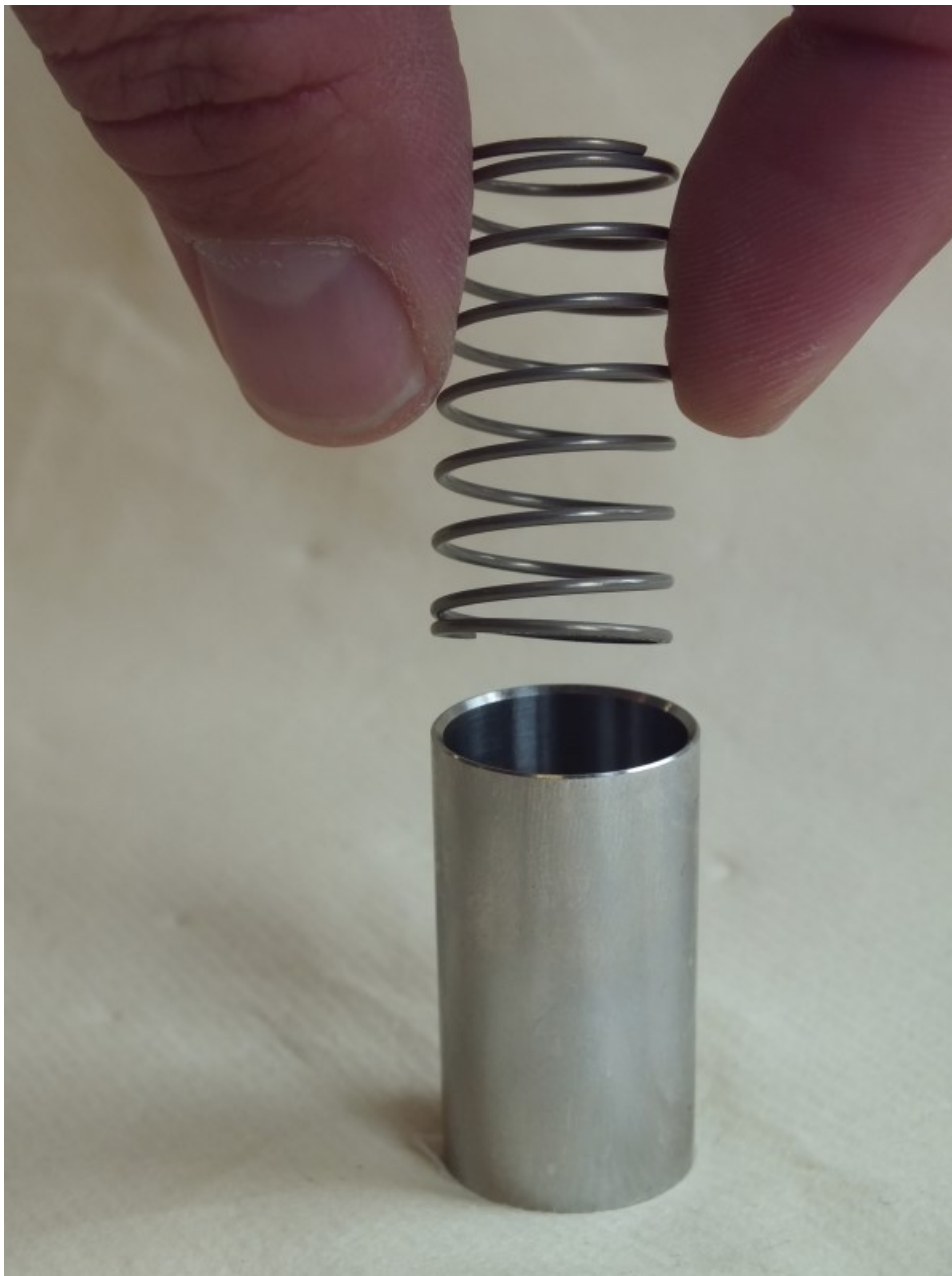

Fig. 42: Inner parts
4. ➤ Insert the spring (Fig. 42) into the float.